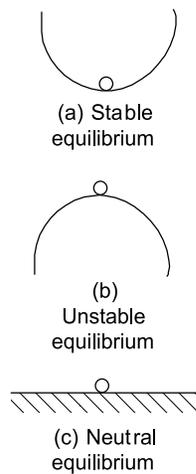

Figure 4.2
- (i) If an object is in **stable equilibrium** and it is slightly disturbed by pushing or pulling (i.e. a disturbing force is applied), the centre of gravity is raised and when the disturbing force is removed, the object returns to its original position. Thus a ball bearing in a hemispherical cup is in stable equilibrium, as shown in Figure 4.2(a).
- (ii) An object is in **unstable equilibrium** if, when a disturbing force is applied, the centre of gravity is lowered and the object moves away from its original position. Thus, a ball bearing balanced on top of a hemispherical cup is in unstable equilibrium, as shown in Figure 4.2(b).
Thus, a ball bearing on a flat horizontal surface is in neutral equilibrium, as shown in Figure 4.2(c).